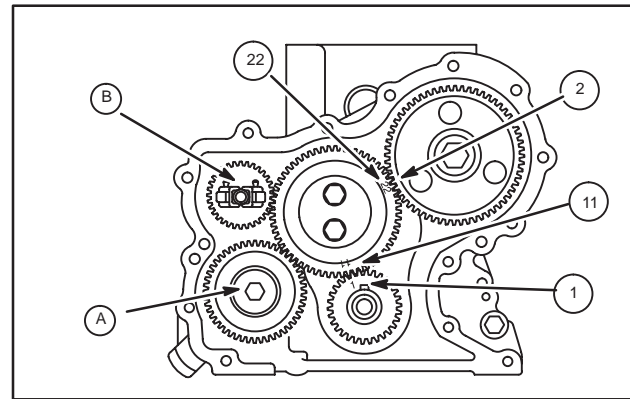

Fig. 15 – Aligning Timing Marks
6. With crankshaft key at 12 o'clock position, assemble idler gear so that timing mark 11 (AA) is aligned with timing mark 1 (A) on crankshaft gear, timing mark 22 (BB) is aligned with timing mark 2 (B) on camshaft gear as shown in Fig. 15.